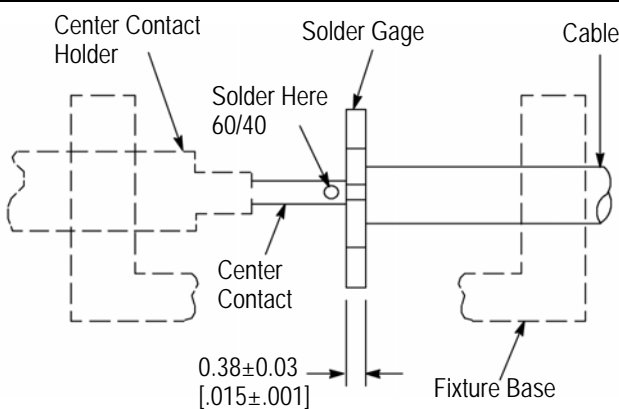

Figure 3
3.1. Preparing the Cable (Figure 3)
3.2. Soldering of Center Contact to Cable Inner Conductor (Figure 3)